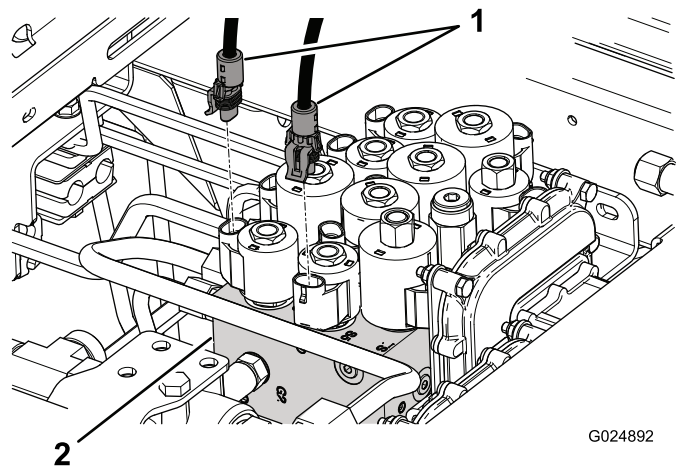

Figure 9
2. Disconnect the electrical connector from the S5 solenoid on the lift manifold (Figure 9) and connect it to the connector on the deck-lock harness labeled S5 HARNESS.
3. Plug the connector on the deck-lock harness labeled S5 SOLENOID to the S5 solenoid on the lift manifold (Figure 9).
4. Disconnect the electrical connector from the S6 solenoid on the lift manifold (Figure 9) and plug it to the connector on the deck-lock harness labeled S6 harness.